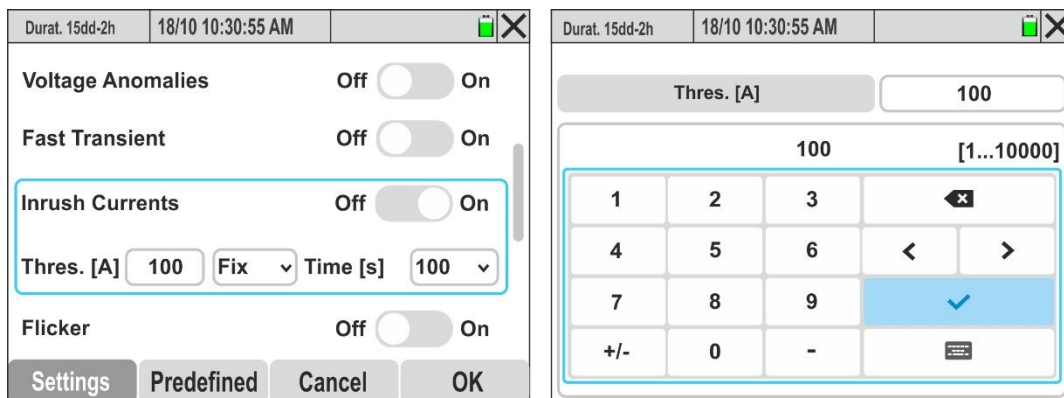

Fig. 34: Activation/deactivation of inrush current recording
27. Touch and move the virtual selector of the "Inrush Currents" field (see § 10.3) to "On" (activation of event recording of events related to the inrush currents of the electric machines) or to "Off" (deactivation of inrush current recording). The screen of Fig. 34 – left part is shown on the display
28. Touch the "Thres. [A]" field to set the current threshold above which the inrush current event is detected and recorded by the instrument. The screen in Fig. 34 – right side is shown on the display